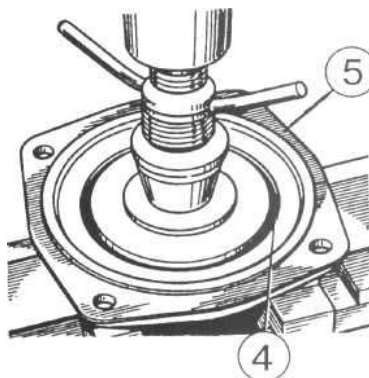

Figure 4.107
- h) press sealing ring 4 off cover 5 (Figure 4.107) (use special device to press in sealing ring);